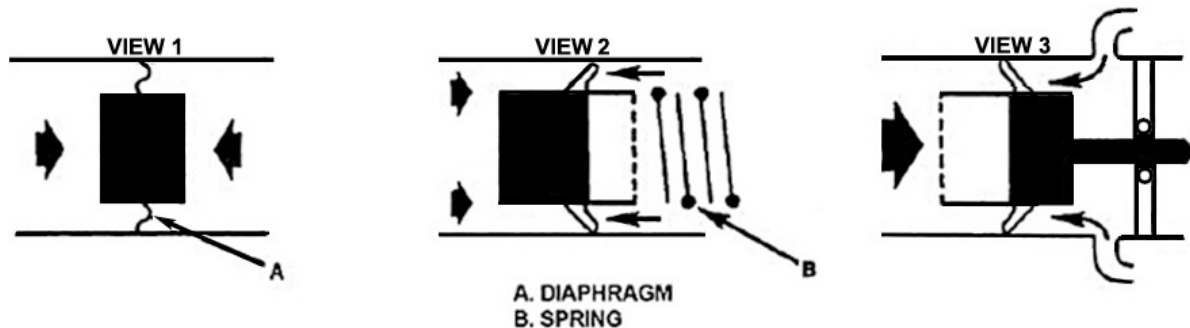

Figure 3-4. Hydromechanical principle.
Fuel-level control valves permit the automatic control of fuel level during the filling of a tank. This type of valve permits refueling any tank from a single point because each tank does not have to be monitored, because the valve will automatically stop the flow of fuel into a tank prior to overflow. In this way, a fuel-level control valve makes refueling a safer operation (if the valve is operating properly). The hydromechanical principle is used to operate these valves. Figure 3-4 shows a few simple examples. Refer to view 1, and you will see that if equal pressures are applied to both sides of the diaphragm (A), the diaphragm remains in the center position. If a spring (B) is installed to aid the pressure of one side, as in view 2, the diaphragm moves to the left as shown. If the pressure is equal on both sides but one side has a larger area, the total force on the side with the larger area results in the diaphragm moving to the right, as shown in view 3.